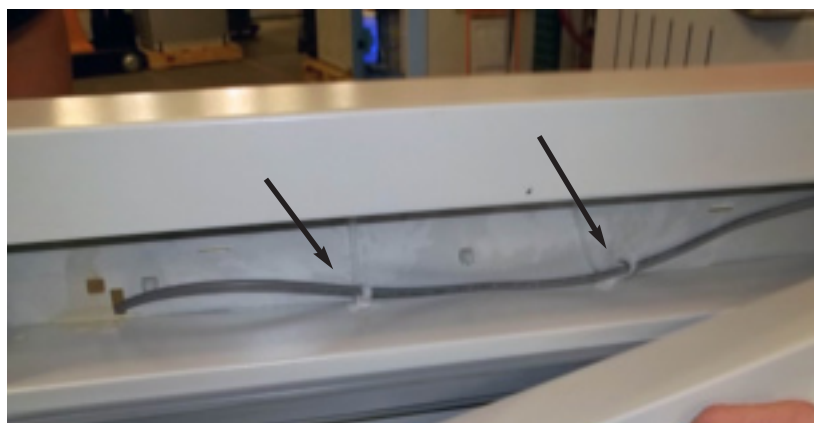

Figure 6-10. Release Tie Wraps
7. Hold the pan and release the tie wraps inside the top of the door (Figure 6-10).